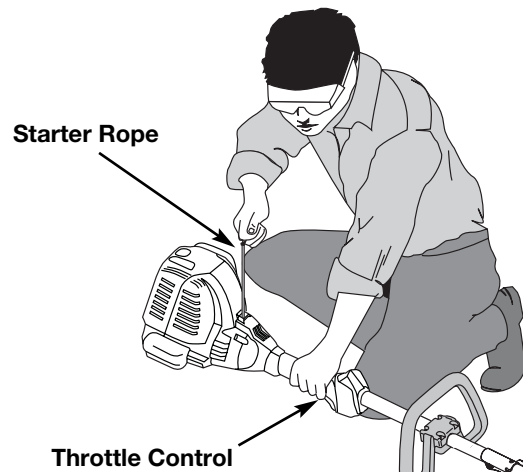

Fig. 8
WARNING: Avoid accidental starting. Make sure you are in the starting position when pulling the starter rope (Fig. 8). To avoid serious injury, the operator and unit must be in a stable position while starting. To avoid serious personal injury, ensure any Add-On being used is installed correctly and secure before starting the unit.
6. Crouch in the starting position (Fig. 8). Squeeze the throttle control lever. Pull the starter rope briskly 5 times.